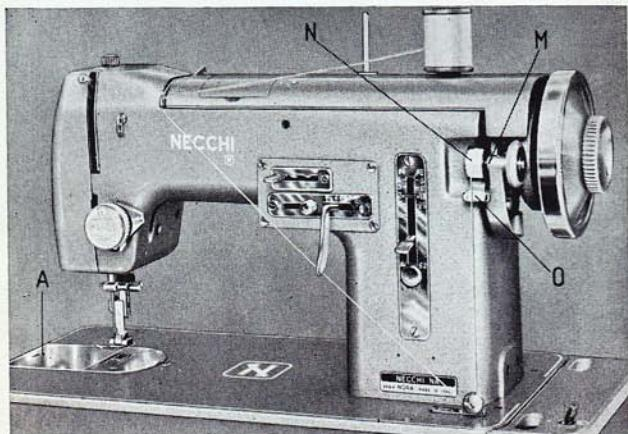

Fig. 7
- b) Run thread from spool, as shown in Fig. 7, and wind a few turns of thread by hand on empty bobbin "N" which then is placed on spindle "M".
- b) Move slide plate "A" entirely to the left (Fig. 7).
Release latch and press bobbin case into shuttle as far as it will go. Push slide plate "A" (Fig. 7) to right, closing it.